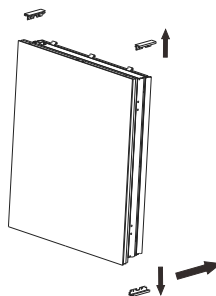

Fig.12
- 1.5 Remove the fix block, see (Fig.12).